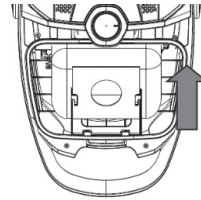

Fig. 12
- Take out the bag holder then remove the full dust bag. (Fig 12)